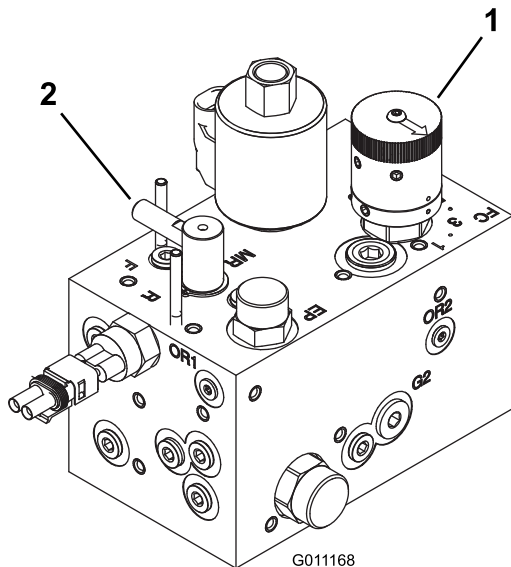

Figure 39
3. Turn the reel speed control knob (Figure 39) to the reel-speed number determined in Step 1.